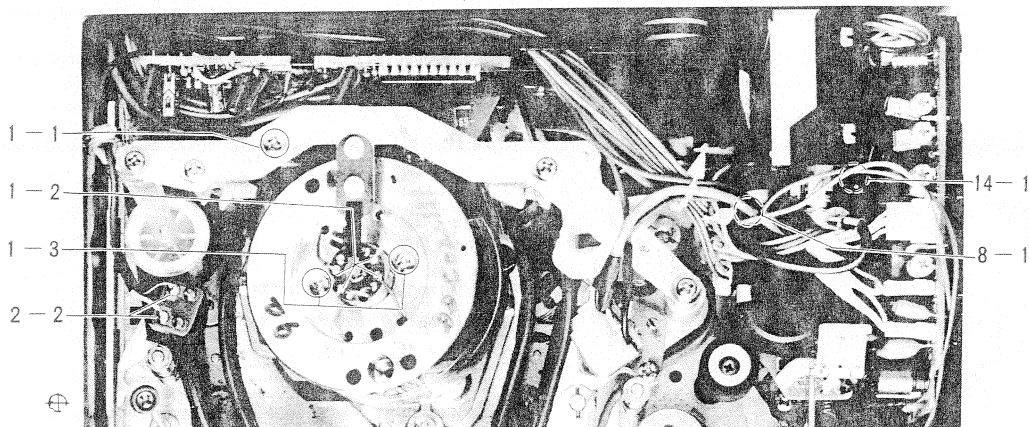

Fig. 26
1. Upper cylinder (Fig. 26)
2. FE head (Fig. 26)
3. AC head (Fig. 26)
8. Loading motor driver PC Board (Fig. 26)
14. RF converter (Fig. 26)